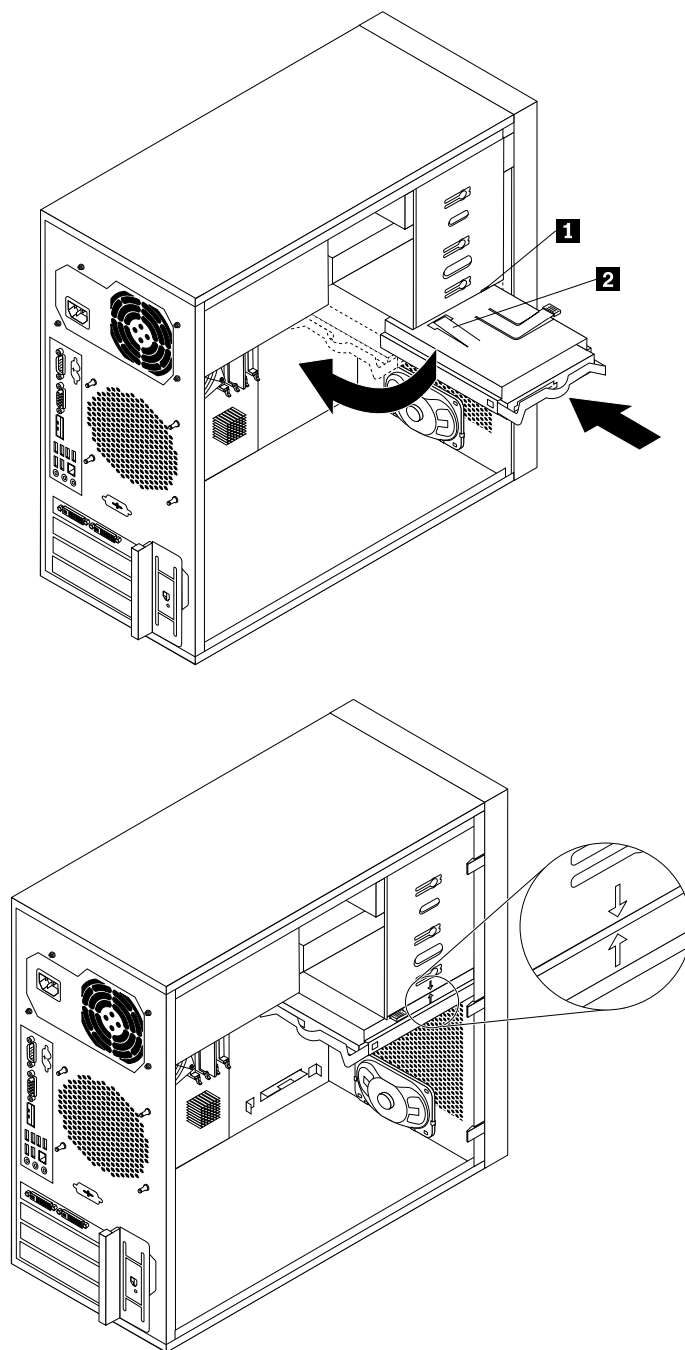

Figure 30. Installing the primary hard disk drive
9. Align the hard disk drive cage pivot pin with the slot **1** in the upper drive cage, as shown in Installing the primary hard disk drive Figure 30 on page 52. Then, slide the hard disk drive cage into the chassis.